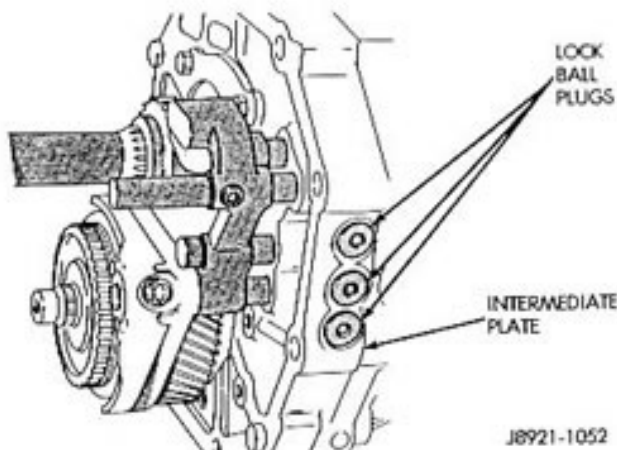

Fig. 22 Lock Ball Plug Locations
(1) Remove the three lock ball plugs from the intermediate plate (Fig. 22).